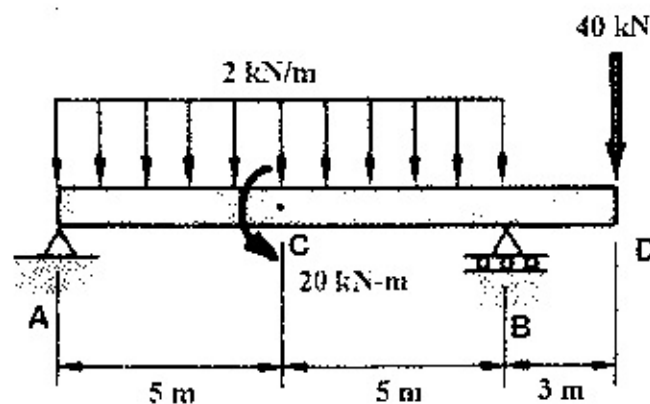

Figure 4
- Q4.** Determine the deflection at point D for the beam shown in Figure 4. Use $EI = 5.1 \text{ MN.m}^2$. (15 Marks)